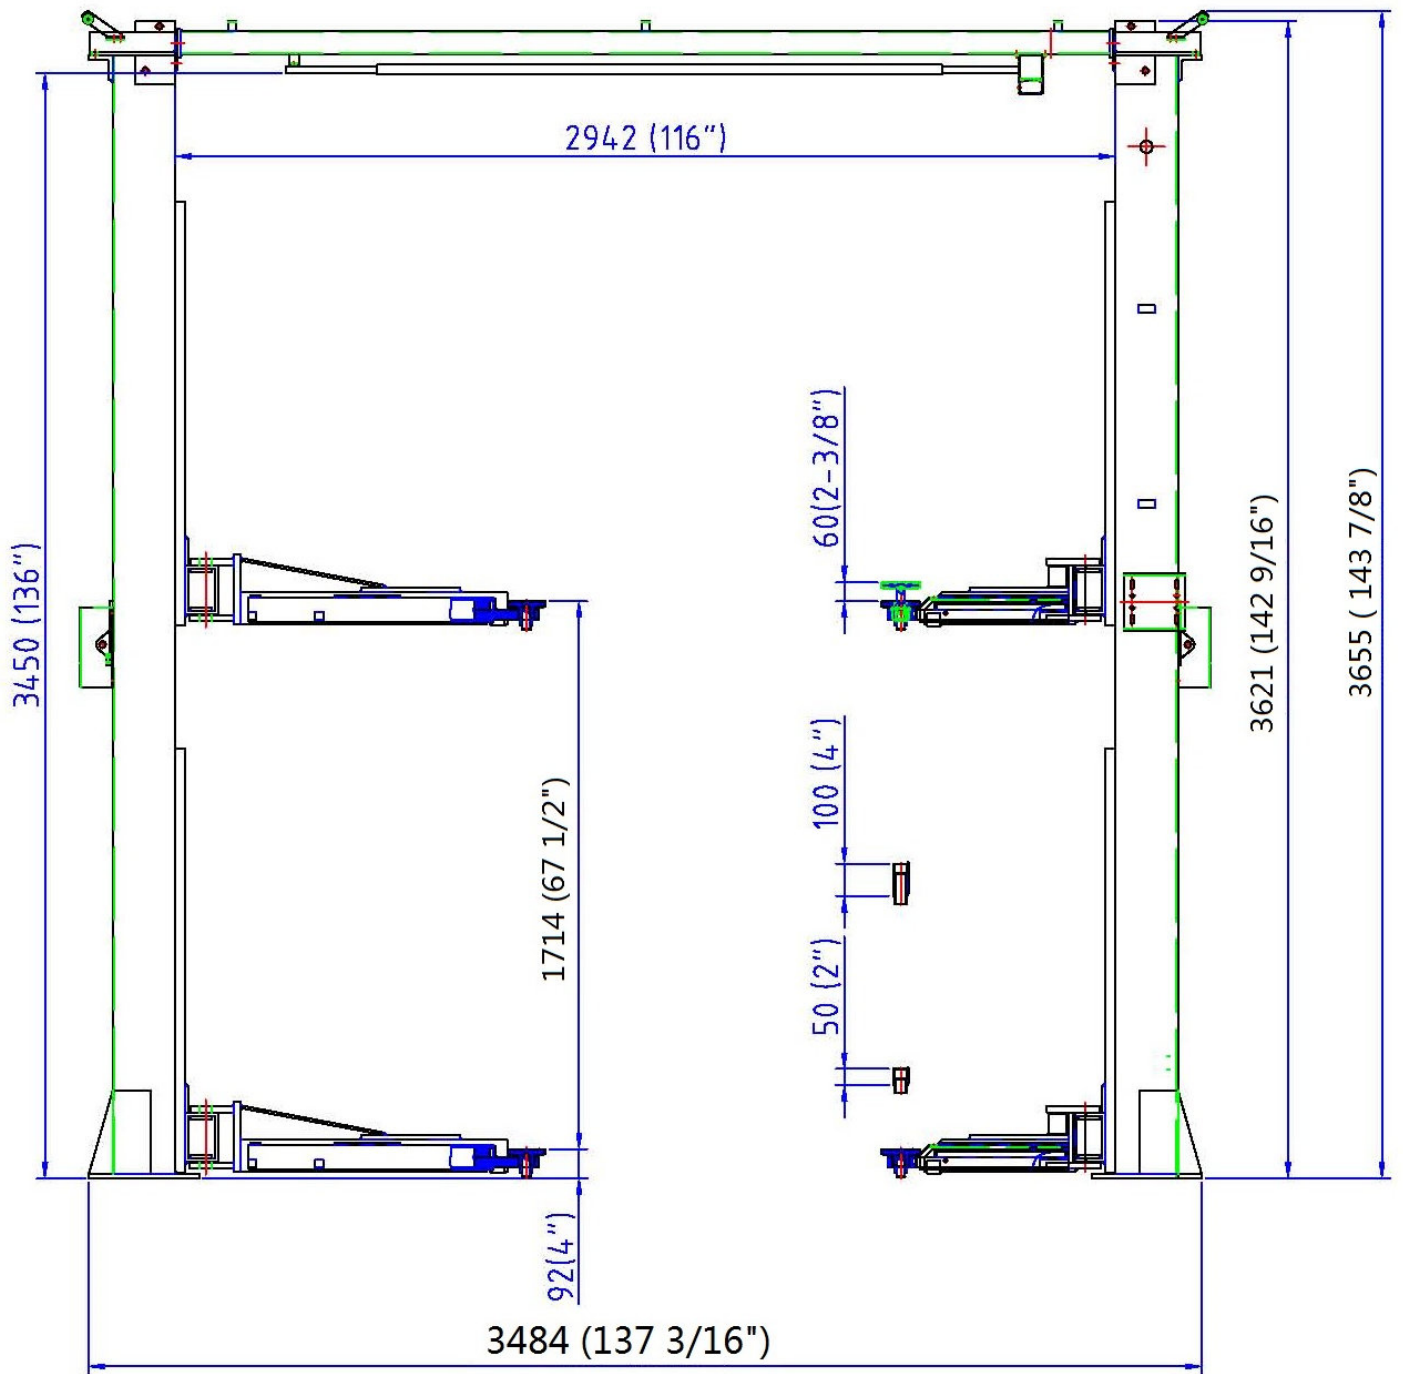

Fig. 1 – Front View Spec.
- A. Always use an architect's plan when provided. Before unpacking the lift entirely, determine if the site is adequate for the lift model being installed see figures 1 & 2 for typical bay layout and ceiling height requirements.